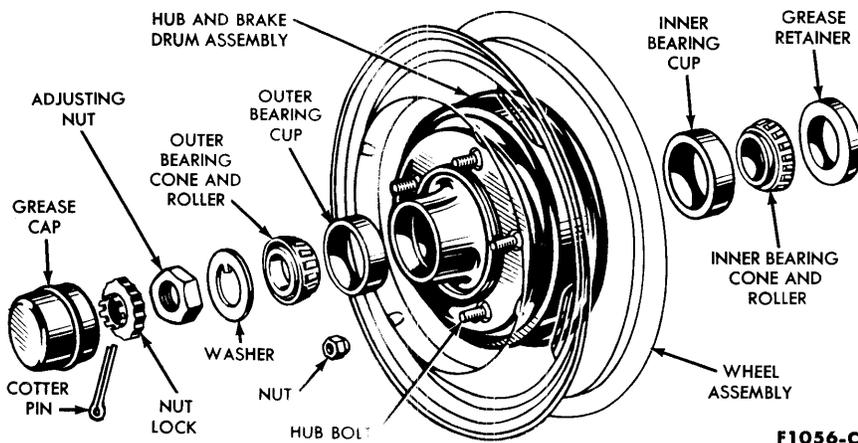

FIG. 4—Front Hub, Bearings, and Grease Retainer
2. Pry off the wheel cover and remove the grease cap (Fig. 4) from the hub.
1. Remove the hub cap or wheel cover. Remove the grease cap from the hub, remove the cotter pin, nut lock, adjusting nut, and flat washer from the spindle, then remove the outer bearing cone and roller assembly (Fig. 4).
11. Install the outer bearing cone and roller assembly and the flat washer on the spindle, then install the adjusting nut (Fig. 4).